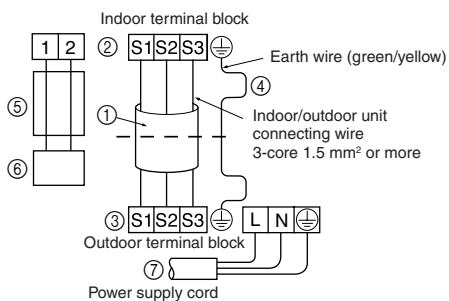

Fig. 7-3
- ① Entry for wired remote controller cable
- ② Entry for Indoor-Outdoor connecting cable
- ③ Cable clamp
- ④ Remote controller terminal
- ⑤ Indoor/Outdoor unit connecting terminal
- ⑥ To wired remote controller
- ⑦ To outdoor unit
- ⑧ Indoor controller
- ⑨ Power board
- ⑩ Earth cable
- Perform wiring as shown in the diagram to the lower left. (Procure the cable locally). (Fig. 7-3)